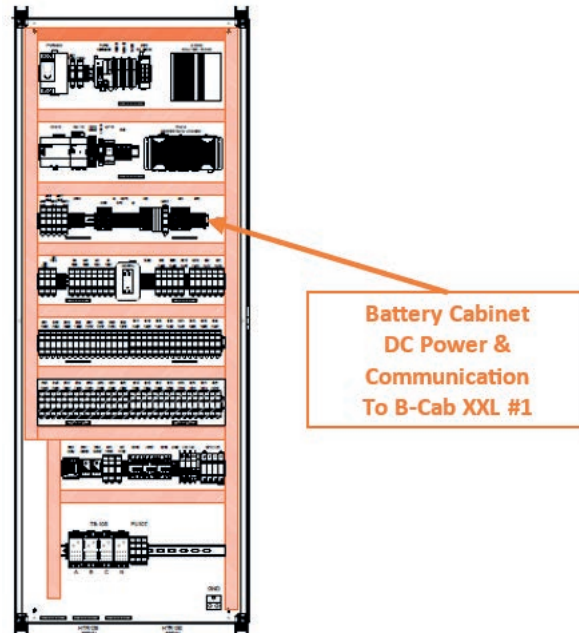

Figure 113. M-Cab XXL Back Panel Component Layout
- b. While positioned in the front of the first battery cabinet (B-Cab XXL #1) . With the end that has loose wires push the cable towards the back of the battery cabinet and through the circular opening at the battery cabinet. See Figure 113.
- g. Terminate the loose wire end onto the bottom of the Terminal Block X2B1, see Figure 113 for location within the M-Cab XXL. Match the “TERMINAL MARK” specified on